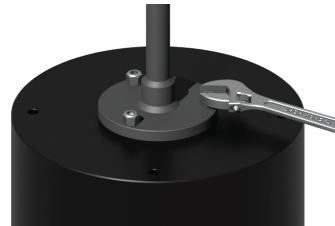

Figure 21
**3.4.2)** Thread cutter onto saw mandrel completely, then back off until the 3 equally spaced holes in the cutter align with the threaded holes of the saw mandrel. Secure cutter with three 1/2"-13 screws and lock nuts (see Figure 21).